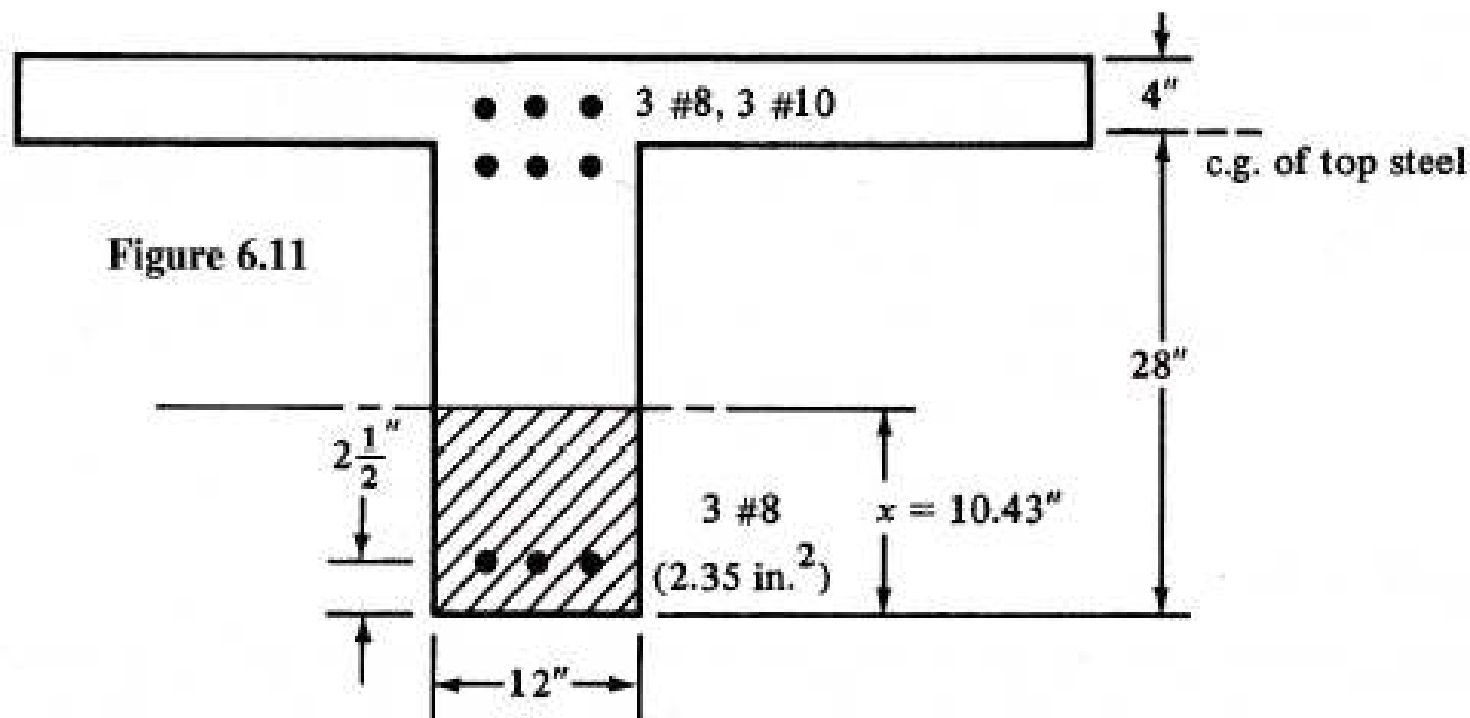

Figure 6.11
2. Locating the centroidal axis of the cracked section and calculating the transformed moment of inertia I_{cr} for the negative-moment region (Figure 6.11). See Example 2.5 for this type of calculation.